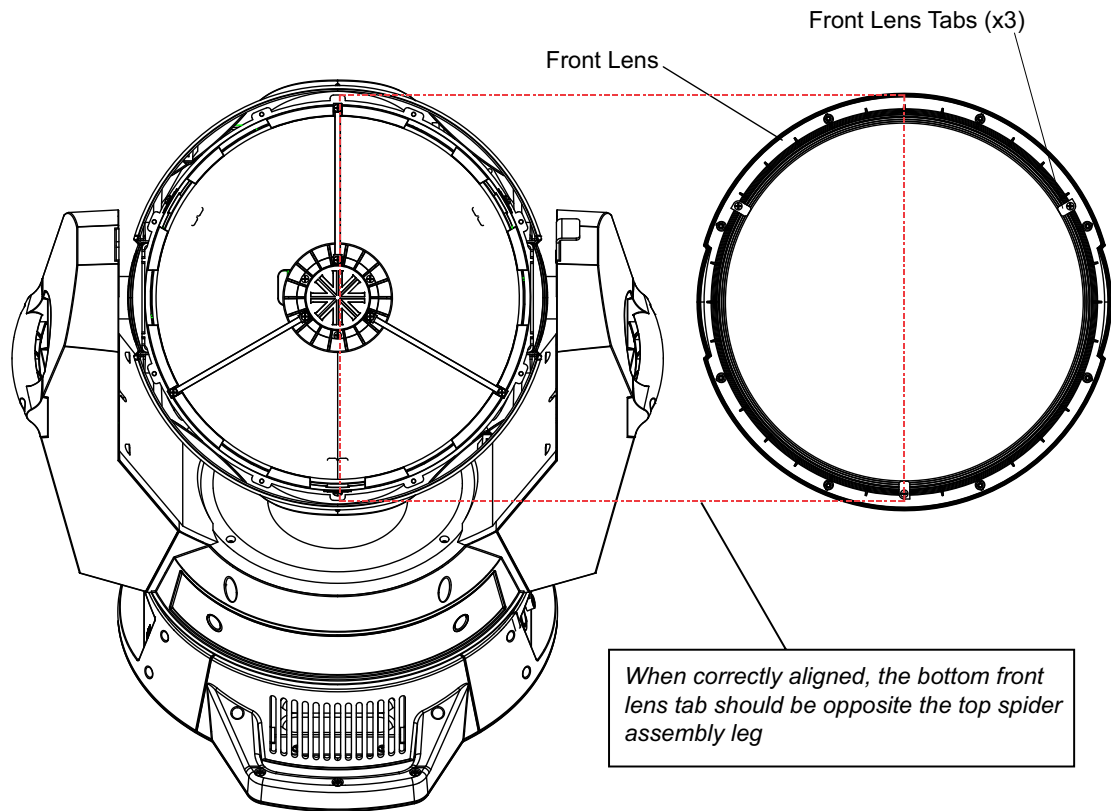

Figure A-9: Front Lens Installation
- Step 2. Install the front lens. There are three tabs inside the front lens. Figure A-9 shows the correct alignment of the front lens. Ensure that the tabs do not rest on top of the spider assembly legs.